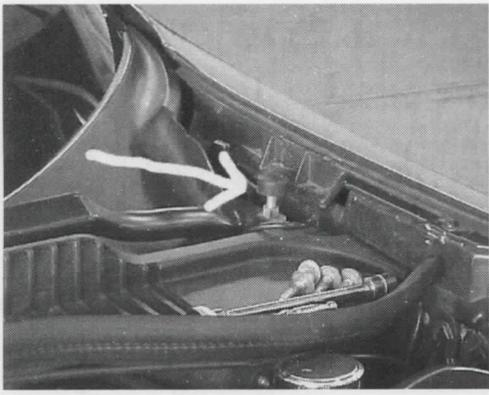

FIG. 6a
6. TURN HOOD ALIGNMENT BUMPERS ON HOOD HINGES AND AT PILLAR POSTS DOWN TO THEIR LOWEST SETTING (SEE FIG. 6A & 6B).